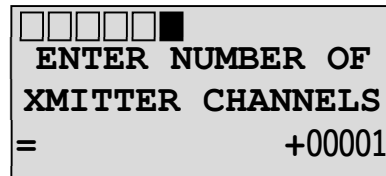

Fig. 2.1 – Monitor system number
2. Press [OK] and the next screen will appear (Fig. 2.1). Input the number of monitors that will be controlled by the transmitter unit (Belly Pack max of nine, handheld max of two). To change the value use the diamond shaped buttons [UP] to increase or [DOWN] to decrease. Press [OK] to enter the change, which will also move the program on to the next screen.